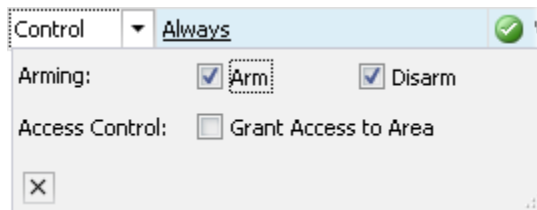

Figure 27
9. Depending on the entity selected in the “What” column, the “Options” column may have a drop-down selection available. *Figure 27* is an example of the area control options.